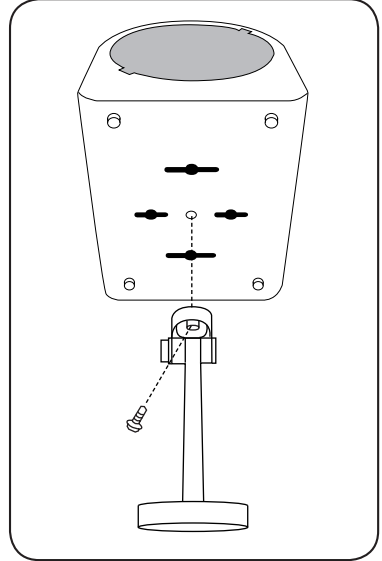

Fig. 19: Do not over tighten the screw so as to prevent stripping of the pilot hole.
- Attach the ScentWave to the pivot end of the wall mounting arm through the center hole using the provided screw. Tighten using a screwdriver to secure the screw in place. **(Fig. 19)**